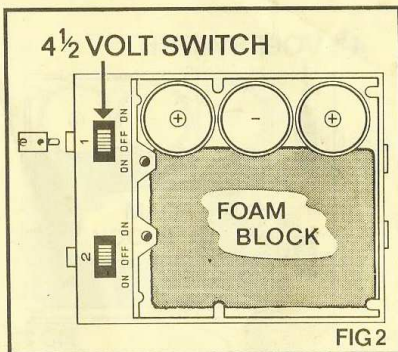

FIG 2
2. If the power required is 4½ volts then only 3 batteries need be used and they should be placed in position shown in Fig. 2: the remaining space in the box being filled by the foam block supplied.